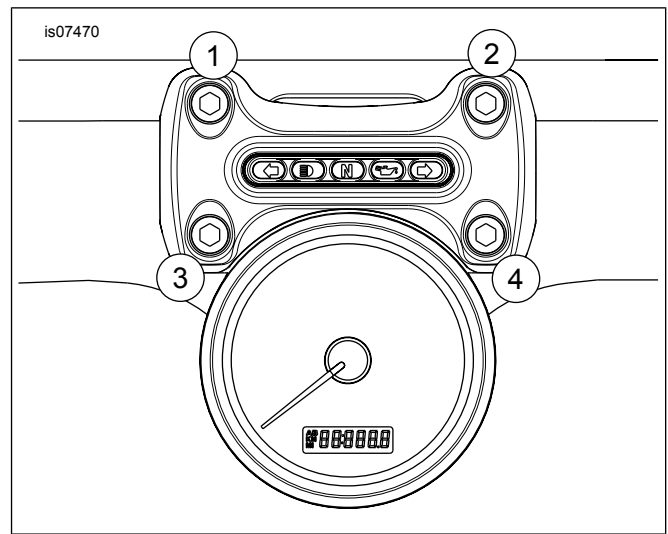

Figure 3. Riser Clamp Torque Sequence
4. See Figure 3. With handlebar centered and oriented, tighten riser clamp fasteners following the sequence shown.